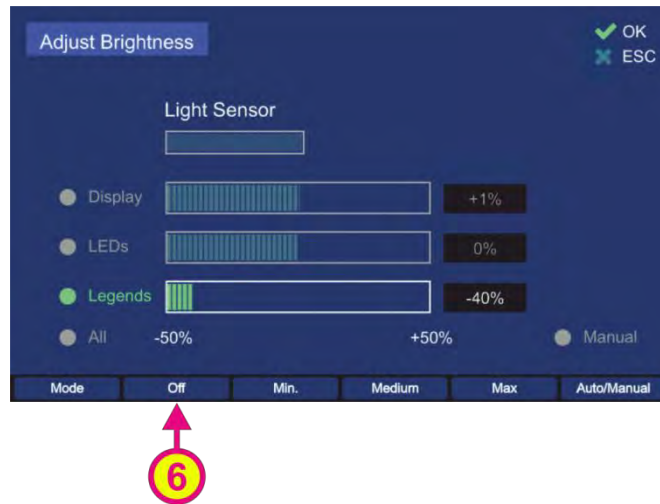

Figure 148. Deactivation of the illumination of legends
- o The hotkey “Off” (s. Figure 148, number 6) is only available if the “Mode” is set to “Legends”. Pressing this hotkey deactivates the illumination of the legends.